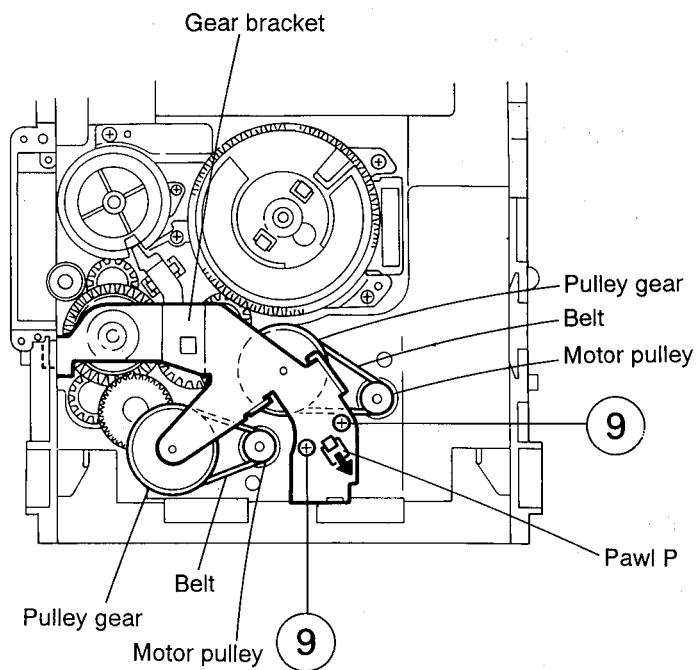

Fig. 2-28
(See Figs. 2-28 to 2-31)
1. Remove the two screws ⑨ retaining the gear bracket (See Fig. 2-28).
2. While pressing the pawl (P) fixing the gear bracket in the arrow direction, remove the gear bracket (See Fig. 2-28).
3. From the notch (Q section) on the chassis assembly fixing the edge of gear bracket, remove and take out the gear bracket (See Fig. 2-28).